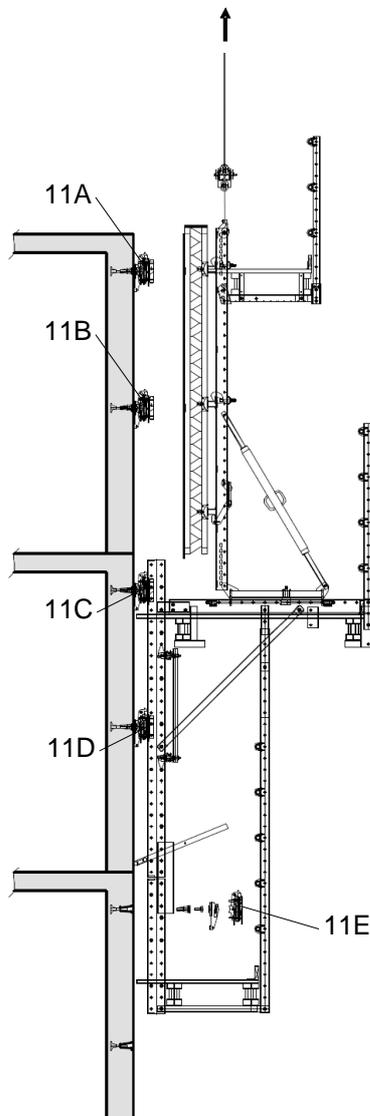

Fig. 91: Climbing procedure with crane
- Dismantle bottom Climbing Shoe **11E** (Fig. 91) on height of the finishing platform. **ÖC4.2**